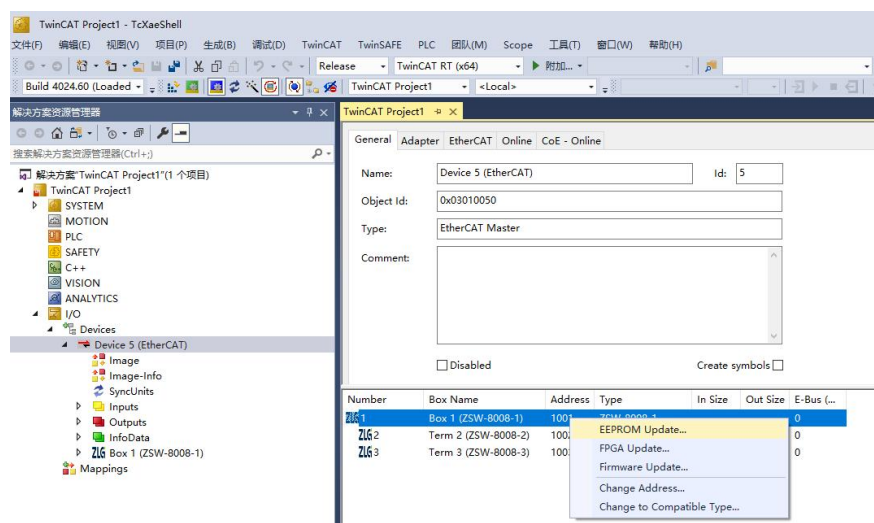

Figure5.2 Select Device for EEPROM Update
2. Open TwinCAT3 and click to scan for devices. After scanning is complete, select the scanned Device. In the General tab, select the slave device whose EEPROM needs to be flashed. Right-click and click "EEPROM-Update...", as shown in Figure 5.2.